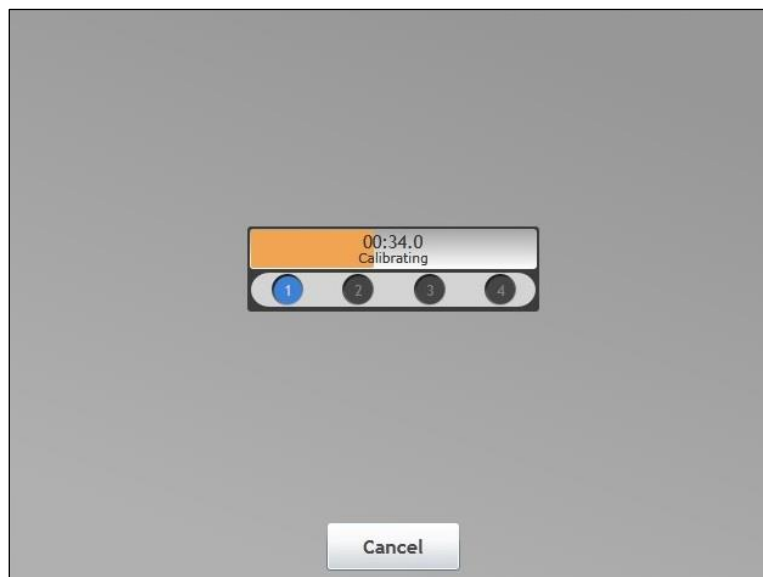

Figure 92. Calibration process screen
5. To begin the Calibration process, click **Continue** in the Calibration Parameters dialog (Figure 90). The Calibration progress screen (Figure 92) appears, showing the progress of the calibration.